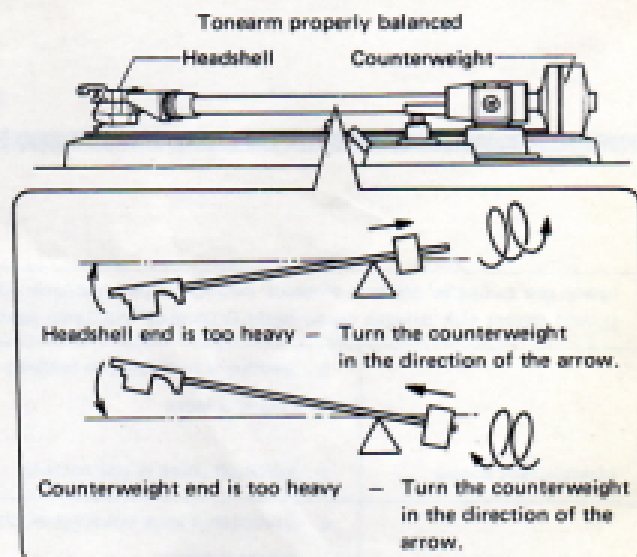

Fig. 9
5. Support the headshell's finger-lift with one hand and attain the level balance by turning the counterweight either clockwise or counter-clockwise. "Level balance" means that the tonearm is parallel to the record on the platter, and that the tonearm pipe, therefore, should not tilt toward the counterweight side or the headshell side (see Fig. 9).